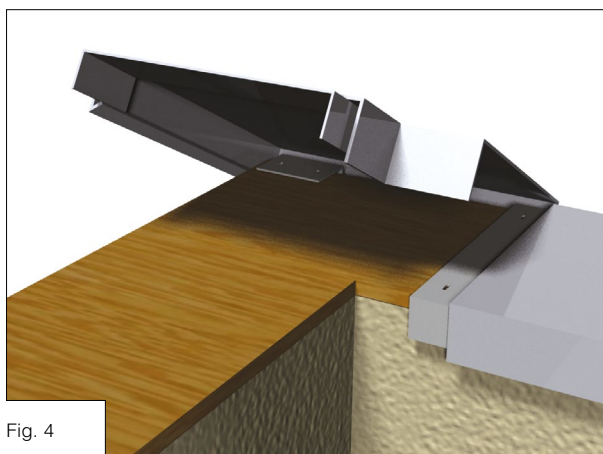

Fig. 4
4. Fig. 4
Remove butyl tape and attach one full fixing bracket to one side of the coping angle. A 1/2 fixing bracket must be secured to the fixing background using 2 x SC204 screws as shown in Fig. 4. Position the angle in place ensuring the returns on the downstands engage with the coping length bracket and 1/2 bracket. Fix down remaining exposed full bracket with 2 x SC204 screws. Using SC250 (No.8 x 15mm) colour matched screws, fix through inside return faces into the brackets to anchor into position.